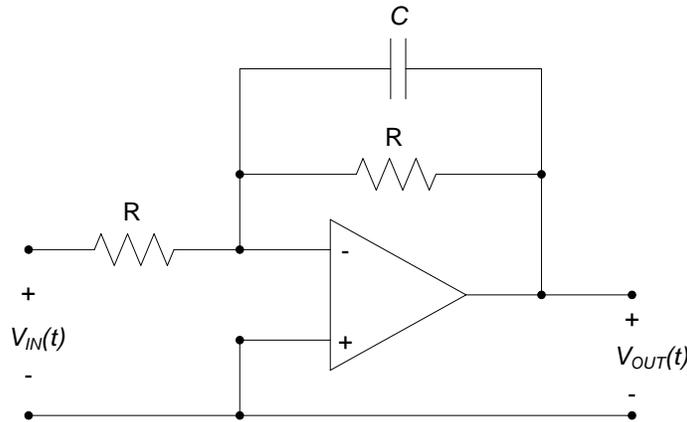
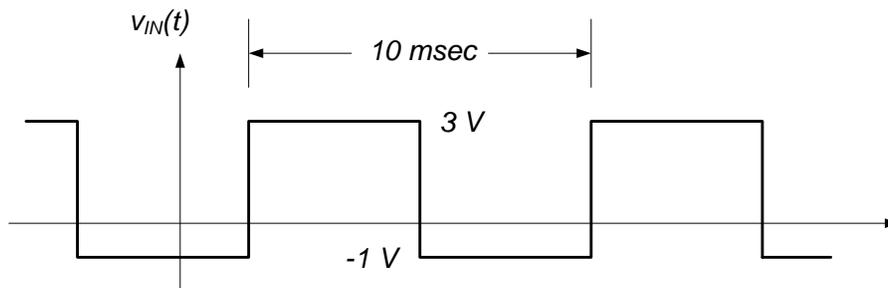

Figure 1. (Inverting) active RC circuit.
Figure 2. Input voltage signal.
The circuit shown in Fig. 1 has an input-output relationship:
which, with the exception of a sign change, is the same as that of the circuit of Fig. 1(a) of Lab 7.5.1. Thus, the response of the circuit of Fig. 1 will have the same time constant and steady state gain as the circuit of lab 7.5.1, but will be of opposite sign.
- a. Construct the circuit shown in Fig. 1, using $R=470\ \Omega$, and $C = 1\ \mu\text{F}$ (As always, measure the actual resistance and capacitance values (if possible) and record them in your lab notebook.)
- Apply a 4V peak-to-peak square wave input with period = 10 ms (frequency = 100Hz) as shown in Fig. 2 to the circuit. (Make sure the supply voltage ranges applied to the operational amplifier are adequate to provide the full range of output voltage.) Measure both $V_{IN}(t)$ and $V_{OUT}(t)$; record an image of the oscilloscope window, showing the waveforms.
- c. Apply a load to the RC circuit of Fig. 1 by constructing the circuit shown in Fig. 2. Use $R = R_L = 470 \Omega$.
- i. Measure the V_{IN} and V_{OUT} , for the input voltage shown in Fig. 2. Record an image of the oscilloscope window, showing the waveforms.